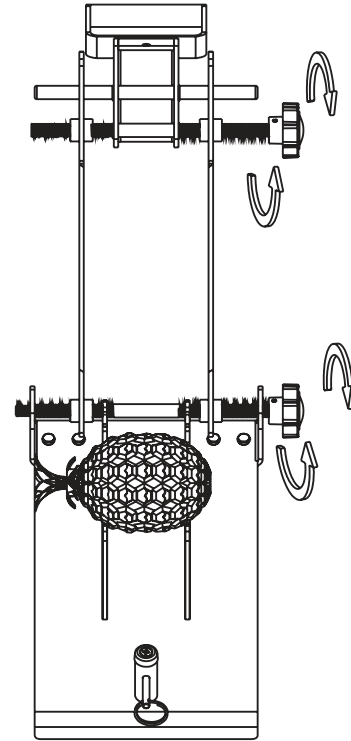

Figure 4
- Adjust the blade widths with the help of the adjustment levers and the ruler on the product according to the pineapple size you use. (Figure 4) Make sure that the blades are parallel.